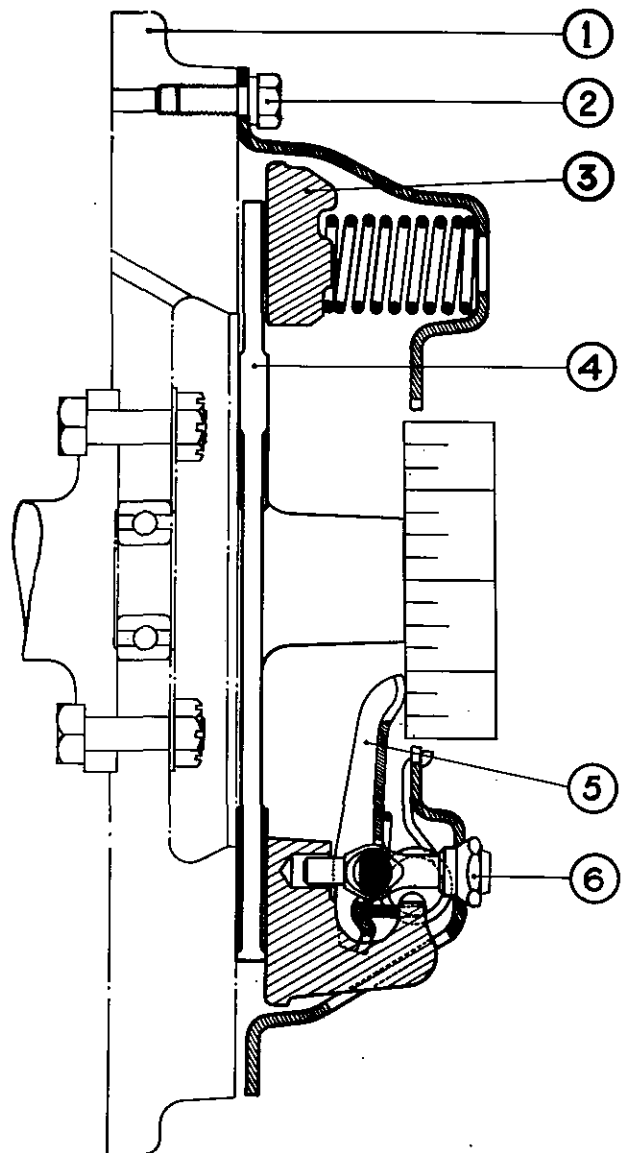

Fig. 3
2. Slacken the holding screws (2), Fig. 3, a turn at a time by diagonal selection until the thrust spring pressure is relieved. Remove the screws and lift the complete clutch away from the flywheel. Remove the driven plate assembly.
2. Fit the cover assembly to the flywheel by means of the holding screws (2), Fig. 3, tightening them a turn at a time by diagonal selection. Do not remove the dummy shaft until all the screws are securely tightened. Remove the dummy shaft.
(See Fig. 3)